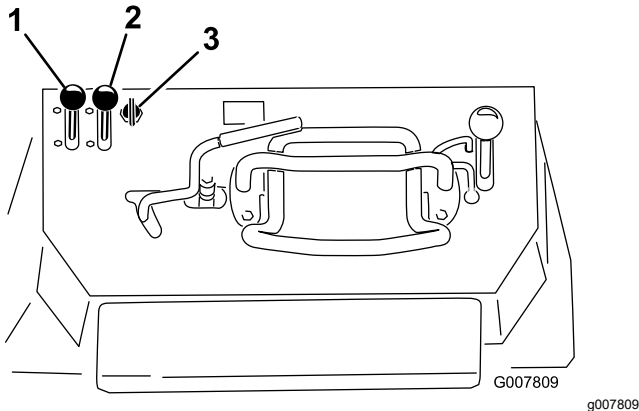

Figure 16
1. Move the throttle lever midway between the SLOW and FAST positions (Figure 16).
2. Move the choke lever to the ON position (Figure 16).
- For electric-start machines, turn the key to the ON position (Figure 16). When the engine starts, release the key.
4. Gradually move the choke lever to the OFF position (Figure 16). If the engine stalls or hesitates, engage the choke again until the engine warms up.
5. Move the throttle lever to the desired setting (Figure 16).
2. Move the throttle lever to the SLOW position (Figure 16).